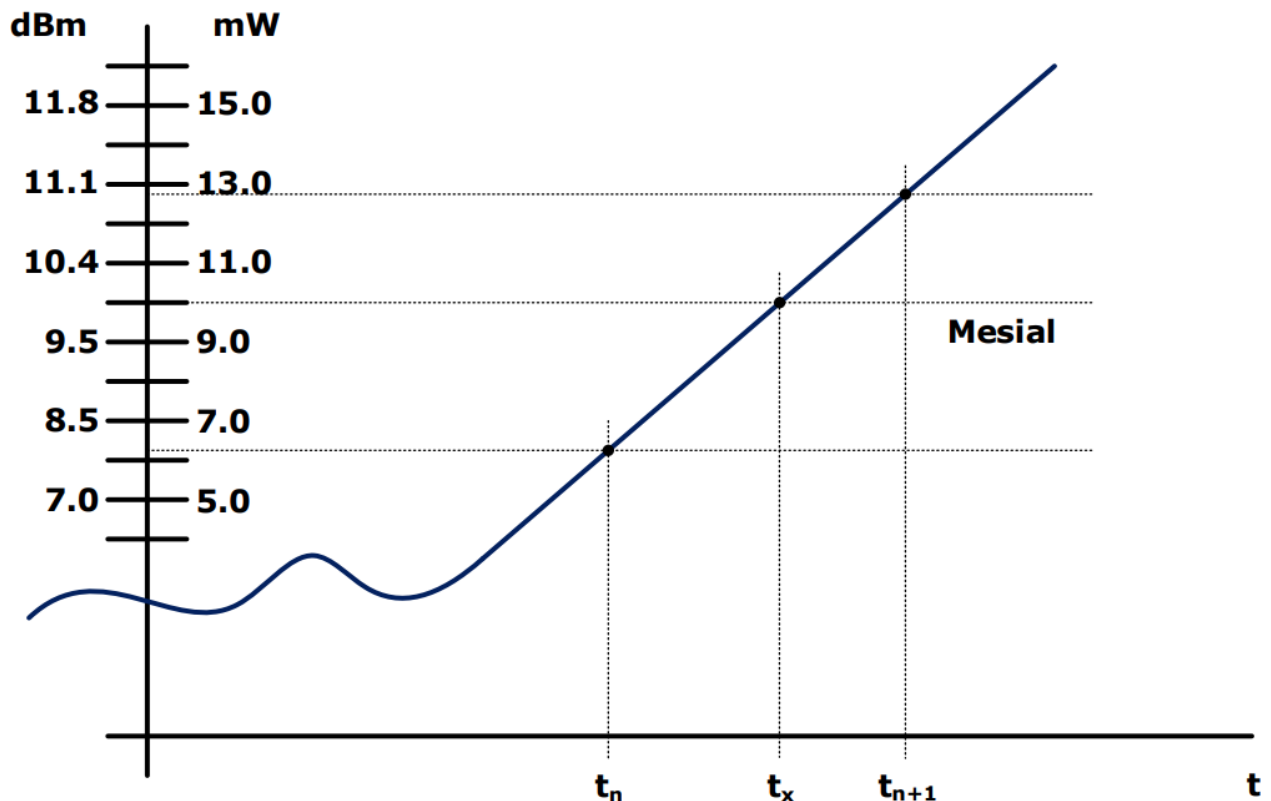

Figure 6.3 Time Interpolation Example
10. The process determines horizontal position, in pixels, at which the signal crosses the mesial value. This is done to a resolution of 0.1 pixel, or 1/5000 of the screen width. Ordinarily, the sample values do not fall precisely on the mesial line, and it is necessary to interpolate between the two nearest samples to determine where the mesial crossing occurred. This process is illustrated in the example shown in figure 6.3.